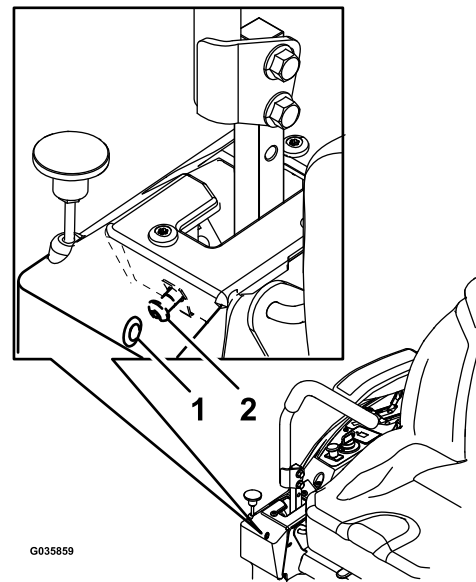

Figure 56
6. If the machine tracks to the right, insert a 3/16 inch hex wrench through the access hole in the right front cover panel and rotate the tracking screw clockwise or counterclockwise to adjust the travel of the lever (**Figure 56**).
7. If the machine tracks to the left, insert a 3/16 inch hex wrench through the access hole in the right front cover panel and rotate the tracking screw clockwise or counterclockwise to adjust the travel of the lever (**Figure 56**).